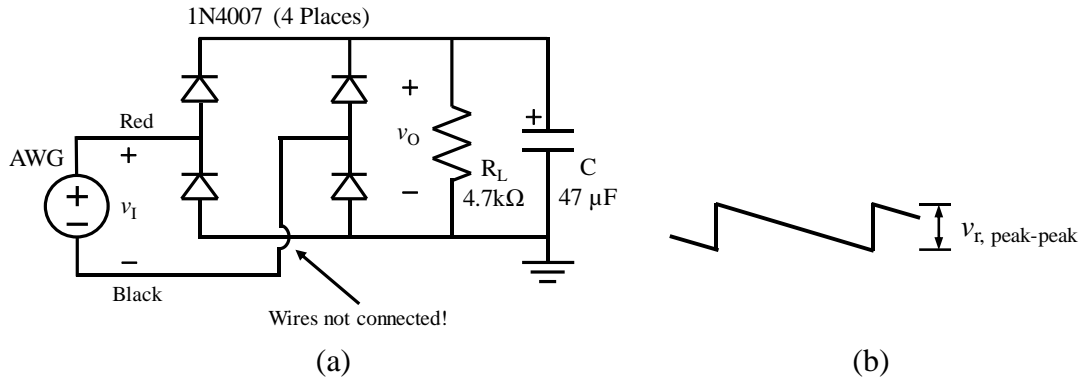

Fig. 3. Full-wave bridge rectifier with filter capacitor (a) circuit and (b) output ripple waveform.
If a large filter capacitor is added in parallel with the load resistor for either the half- or full-wave rectifier, the resulting ripple waveform is approximately a sawtooth superimposed on the dc level. Fig. 3 shows a filtered full-wave bridge rectifier circuit and the peak-peak ripple waveform. Each "tooth" in the ripple waveform can be approximated as a right triangle with maximum value equal to $v_{o,peak}$. It can be shown that the approximate *peak-peak* ripple amplitude for the filtered half-wave rectifier is
3. Perform the following calculations for the full-wave rectifier with filter capacitor in Fig. 3. Put your results in Table 1.